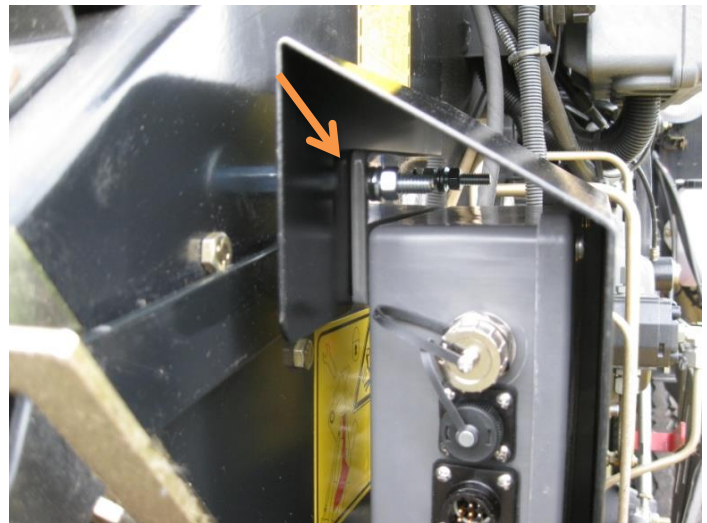

Figure 4
7. Before tightening hardware install the DCP shield (001-5650X) over the top two 5/16" bolts between the fender washers and the mounting plate of the DCP. Tighten all hex nuts (Figure 4).